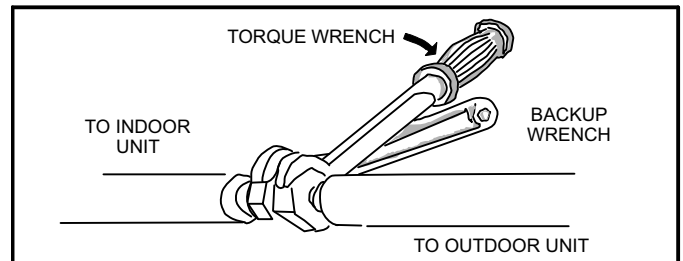

**Figure 4. Making Flared Connections**
- 4 - Apply recommended HFC-410A refrigerant lubricant to the outside of the flared refrigerant lines (figure 4-A).
- 5 - Align the threaded connections with the flared refrigerant lines. Tighten the flare nuts lightly at first to obtain a smooth match (figure 4-B).